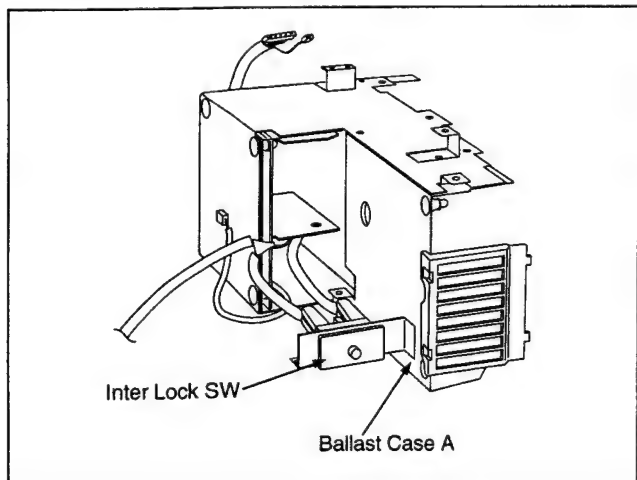

Fig. P9
2. Disconnect the cable (4 pins) from the terminal of Inter Lock SW as shown in Fig.P9.